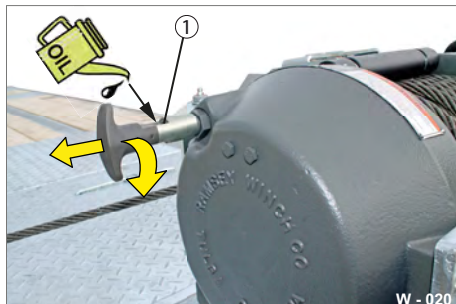

Fig. 24 Example: Disengage the cable drum
- ▶ Pull and turn the clutch lever at the same time (Fig. 24/1).